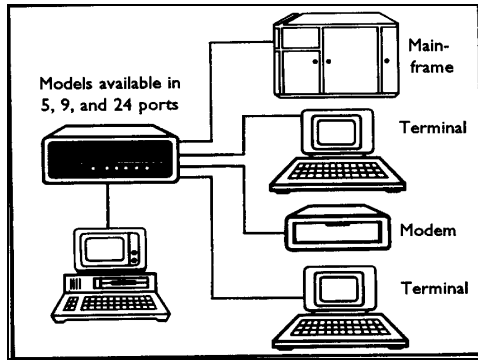

Figure 4: F Series Application
The 524F(P) and 525FP models have one host port and four peripheral ports. The Model 528FP has one host port and eight peripheral ports. The Model 5218FP has one host port and seventeen peripheral ports. *Figure 4* shows a typical application using an F Series multiport controller.